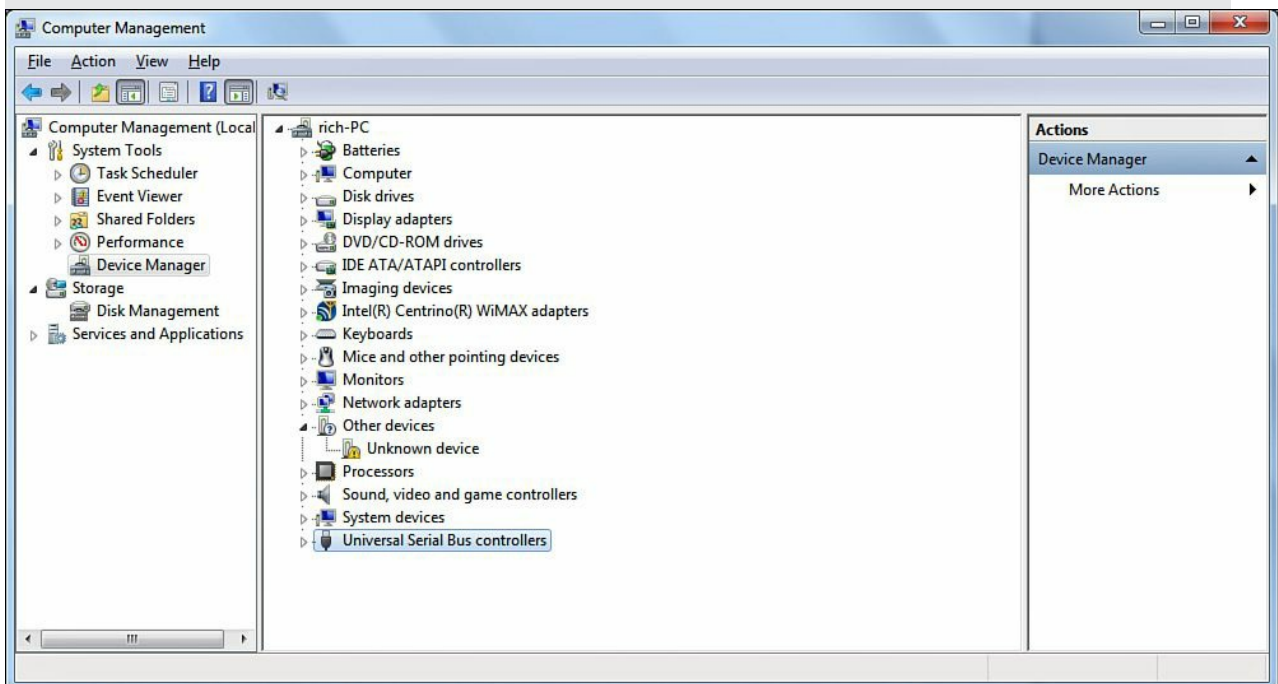

FIGURE 2.4 The Windows Device Manager showing an unknown device.
3. Open the Device Manager interface in your Windows workstation, as shown in Figure 2.4.